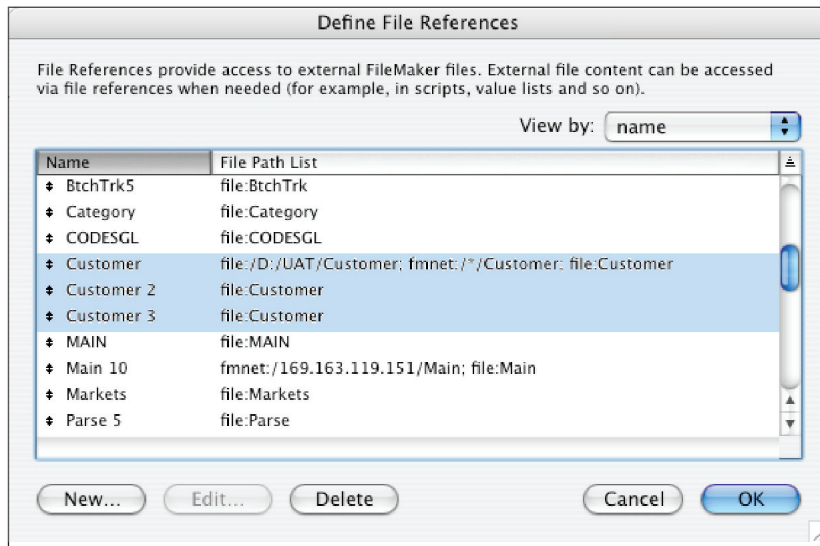

Figure 1
After conversion, you may have two types of issues with your file references. First, there may be redundant references to a particular file. This happens when there are multiple links from one file to another. Note in Figure 1 that there are file references called Customer, Customer 2, and Customer 3, all of which seemingly refer to the same file.
In addition to redundant file references, you also may have individual file references that have multiple paths, incorrect paths, or other path issues. In Figure 1, for instance, the reference called Customer has three paths, the first two of which are obsolete references.
- Make all of your file references simple relative references. Assuming that your solution files all reside in the same folder, then the only reference that's needed is one that looks like "file: myFile". Remove all other paths so that there's just a single relative reference such as this; the file will therefore look only within the folder in which it lives for the specified file. For the file shown in Figure 1, both the Customer and Main 10 references should have the absolute paths removed, leaving just the final relative reference.